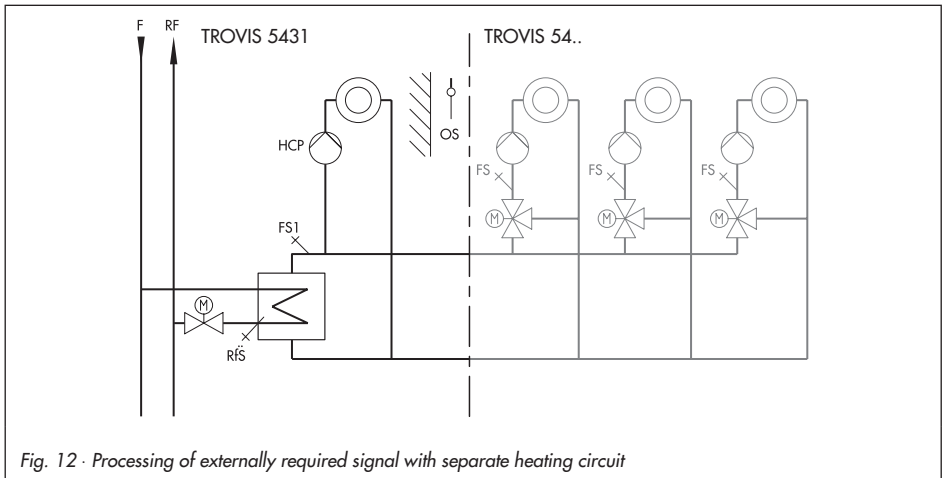

Fig. 12 · Processing of externally required signal with separate heating circuit
- ▶ With outdoor sensor (CO1 F07-1): The TROVIS 5431 Heating Controller controls a separate heating circuit (for system code numbers 4 and 5 also a separate drinking water heating circuit) and the external request for downstream controllers as shown in Fig. 12. During this procedure, you can set the times of use. Maximum and minimum flow temperature